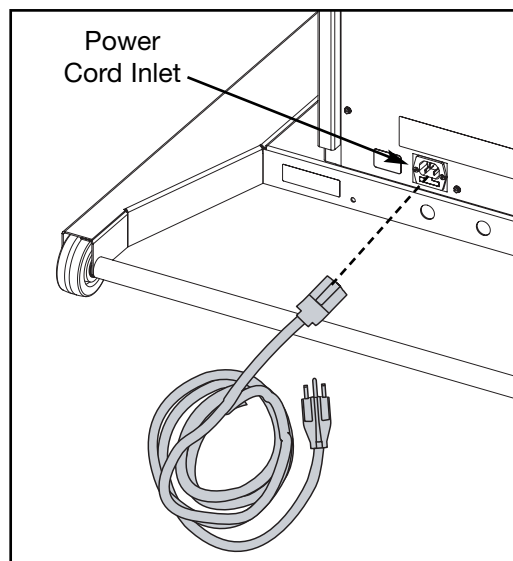

Figure 13
- A. Plug the power cord into the inlet in the back of the unit. **NOTE:** Do not plug the power cord into an outlet at this time. See Figure 13.